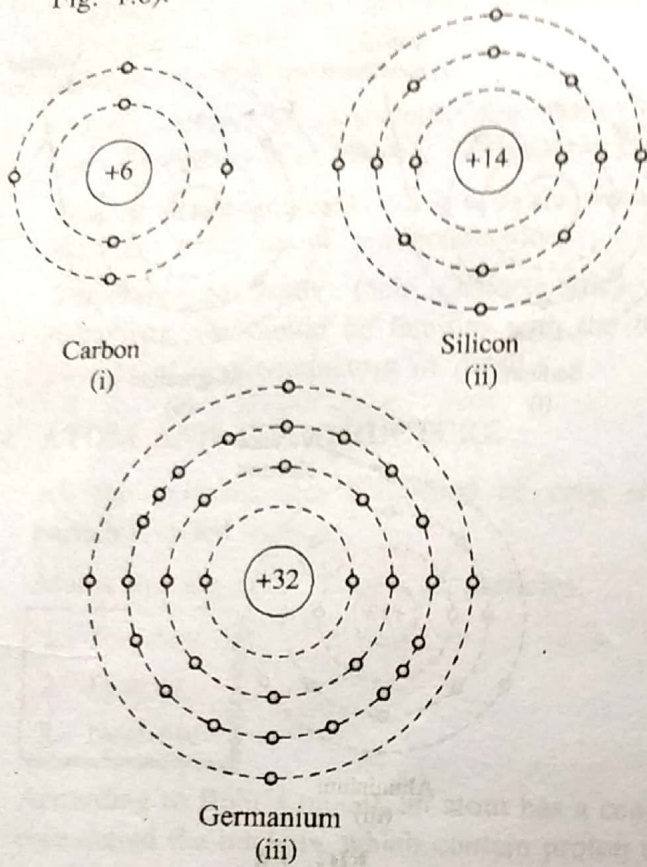

FIG. 1.6
(3) When the number of valence electrons of an atom is 4, the material has both metal and insulator properties and usually known as a semiconductor. Examples are carbon, silicon and germanium, (see Fig. 1.6).